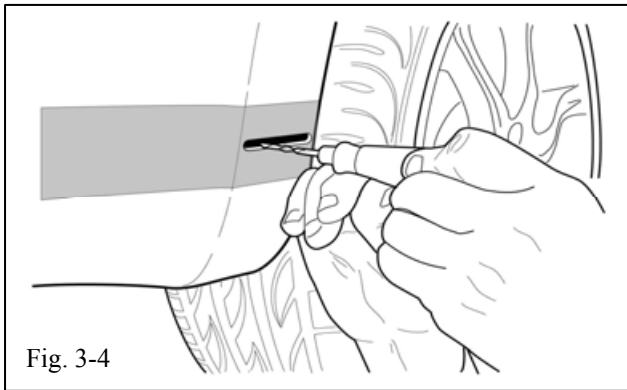

Fig. 3-4
- (f) Using the router with a 1/8" diameter bit inserted into one of the 1/4" holes, carefully and slowly cut the rest of each slot. (Fig. 3-4) When properly cut, the slots should be 1/4" wide and have clean smooth edges.